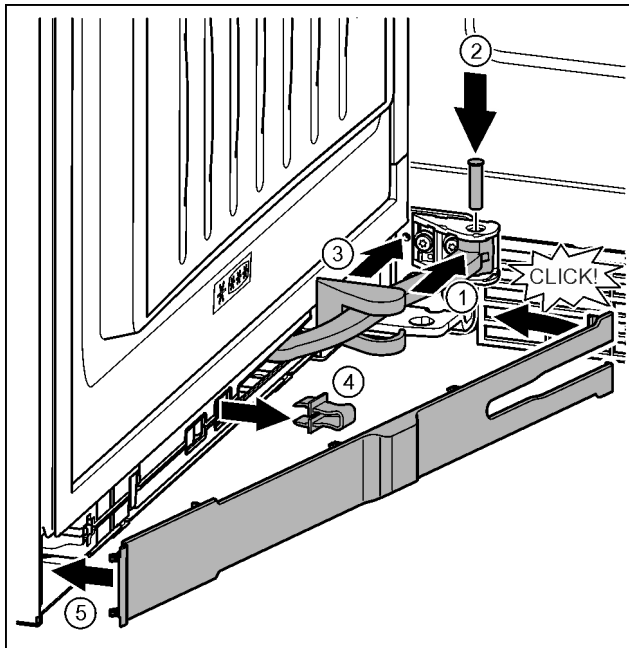

Fig. 40
- ▶ Turn the hinge in the mount. Fig. 40 (1)
- ▶ Insert the bolt with a T15 screwdriver in the mount and hinge. Make sure that the catch mechanism is sitting correctly in the groove. Fig. 40 (2)
- ▶ Push the bearing bracket cover along the hinge and fit on the mount. Fig. 40 (3)
- ▶ Remove the locking device. Fig. 40 (4)
- ▶ Position the panel on the handle side and swing it in. Fig. 40 (5)